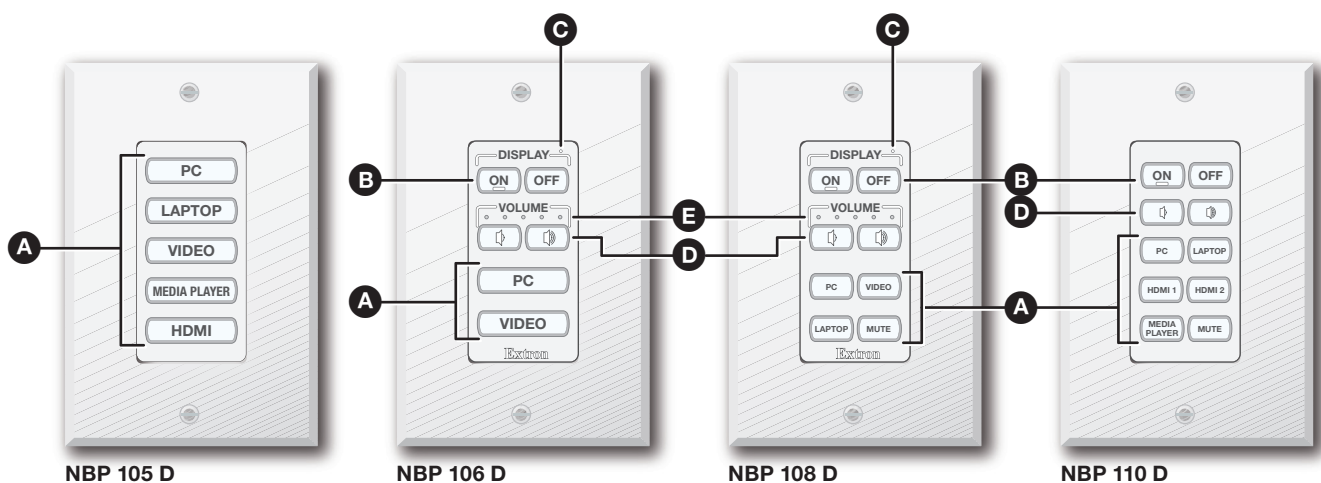
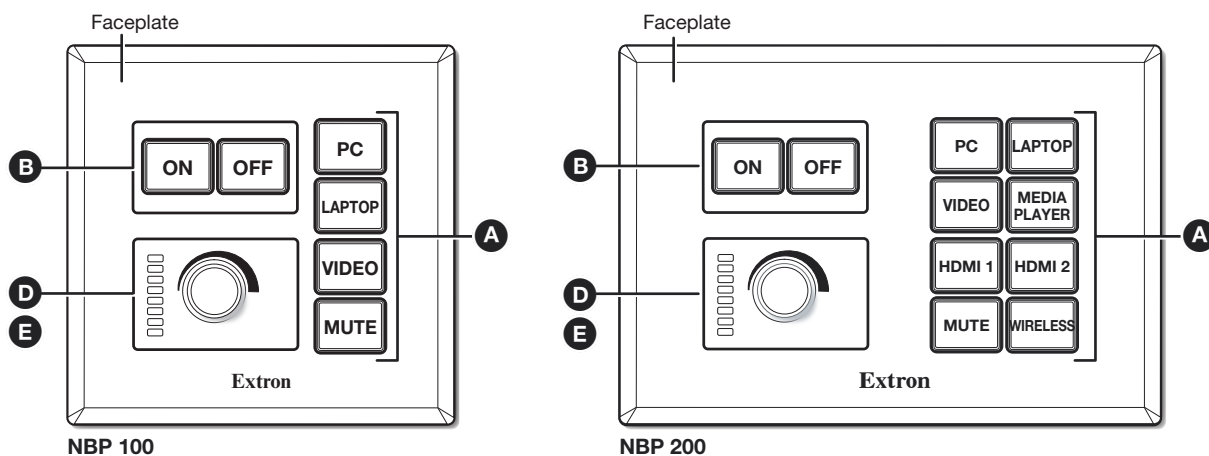
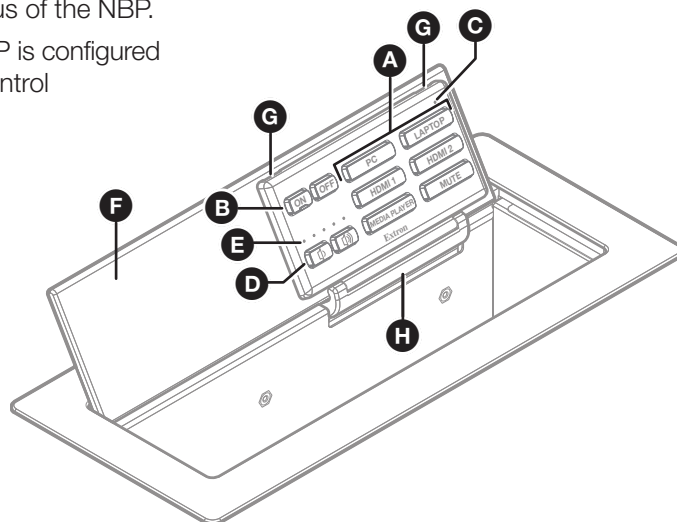

Figure 36. Decorator-style NBP Front Panels With Wallplates
Figure 37. US Gang NBP Front Panels With Faceplates
Figure 38. NBP 1200C Front Panel
- E Volume LEDs** (see figure 36, figure 37, and figure 38 on page 37 — Volume LEDs (present only on models with **Volume** buttons or a **volume knob**) light to act as a meter to indicate the volume level.
- F Cable Cubby lid** (NBP 1200C, see figure 38 on the previous page) — The lid tilts back to 130°. Friction washers ensure the lid holds any angle set by the user. A switch in the hinge activates the buttons when the lid is fully open and deactivates them when the lid is closed to prevent accidental button presses.
- G Button panel removal slots** (NBP 1200C, see figure 38) — Use the Extron removal tool in these slots to release the top of the panel when replacing buttons.
- H Button panel hinge** (NBP 1200C, see figure 38) — Holds the bottom of the panel in place, allowing the panel to tilt forward when replacing buttons.